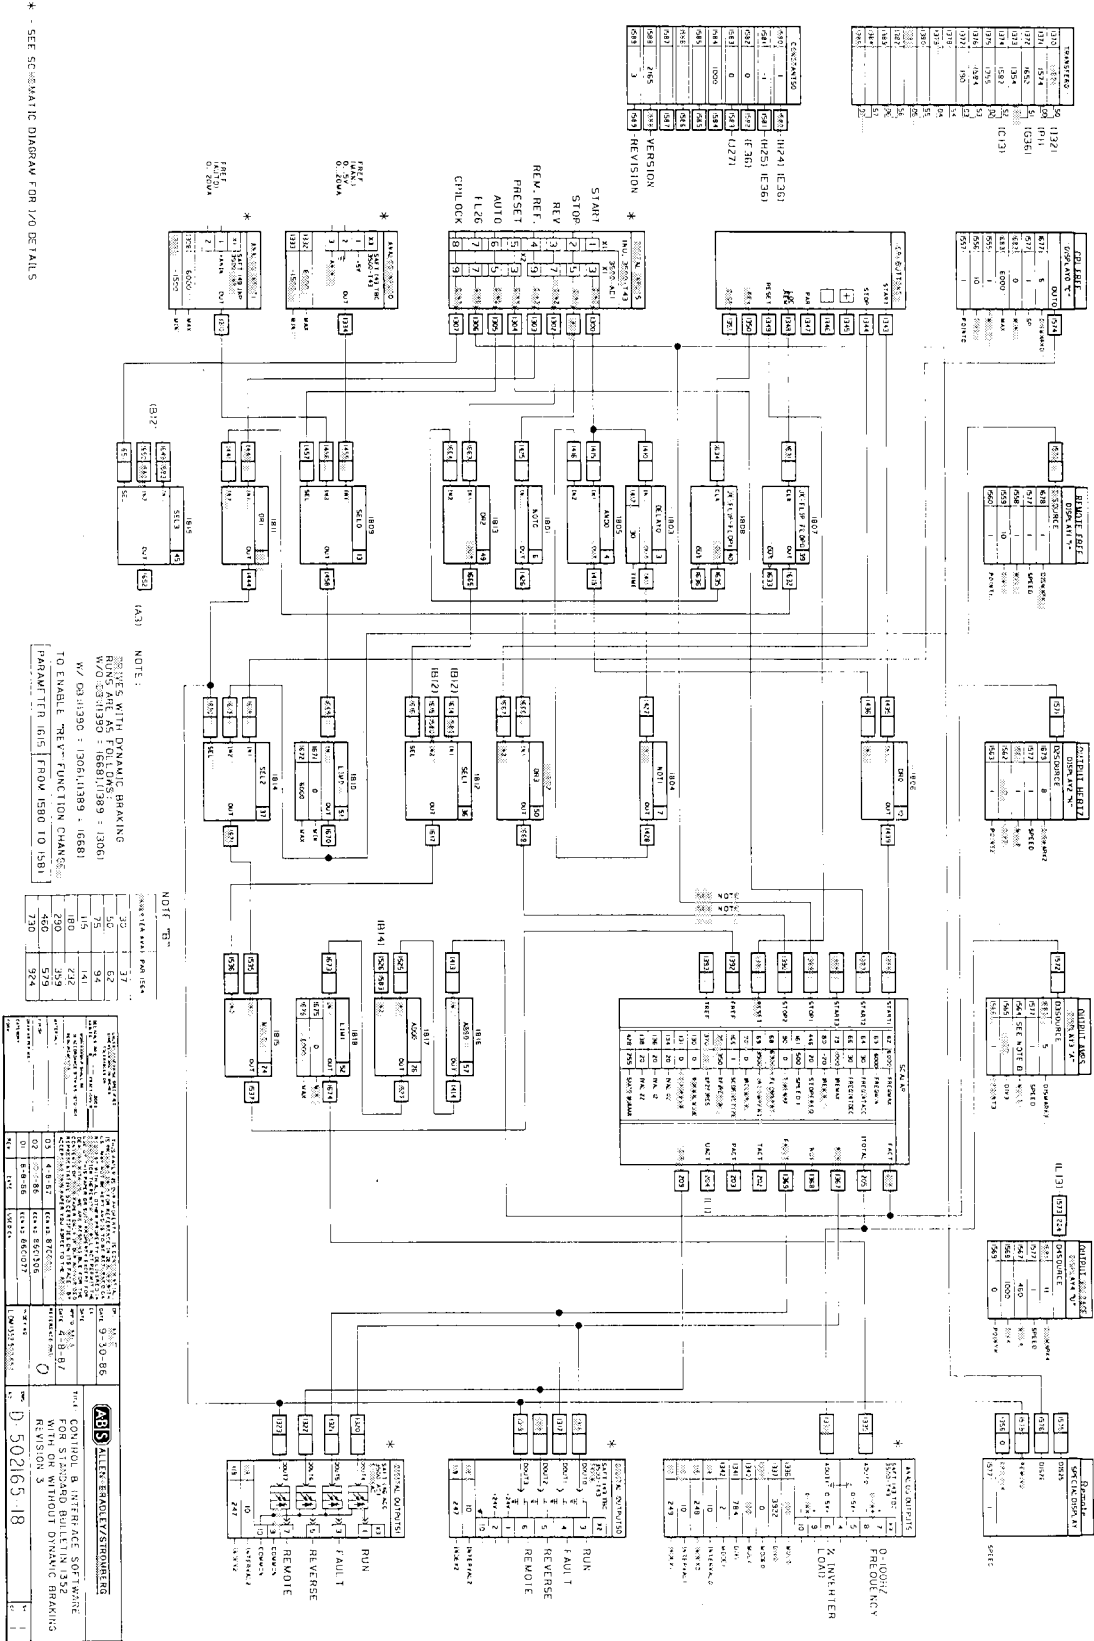

Figure 3-49. Standard Software (repeated in Section 9)
3-2.7.1 START/STOP - Since the actual inputs to the SCALAR block (Fig. 3-49) are inherently 3 - wire equivalent, the Start/Stop control is configured as a 3-wire control. When the START-1 input is connected to a digital input (Table 3-2) it will LATCH-UP, and then the SCALAR block will receive a STOP input telling it to STOP. The START input is conditioned as a oneshot, because a maintained START command would attempt to tell SCALAR to start the drive under any circumstance.
With the oneshot in the start circuit, a start command given by a closed contact (or pushbutton) will be active for the time delay specified in DELAY0 : TIME (where time = $N \times 210$ ms) shown in # 1803 Figure 3-49. After the time elapses, the output of AND0 will go false, clearing the start command. Whenever the start input goes false, the oneshot is cleared and reset.
3-2.7.2 REVERSING - The configuration of SEL1 : IN2 (#1812 Fig. 3-49) is the primary factor in controlling Reversing. SEL1 : IN2 controls the selection of one of two multipliers to be multiplied by the frequency reference. The frequency reference can be passed on through SEL1 without modification, or it can be multiplied by the constant "-1", which is contained in location 1581.
2. Toggling of the JKFlip Flop1 block (#1808 Figure 3-49) by the CP1 : REV button.
Making a selection with either of these methods will cause the output of OR2 (# 1813 Fig. 3-49) to go true. turning the selection of SEL1 to examine IN2 instead of IN1. This will control the multiplication factor to be fed to MUL0:IN2 (# 1815 Fig. 3-49), and ultimately define the "polarity" of the frequency reference.
- 3-2.7.4 PRESET** - Momentarily activating the PRESET input (DIGITAL INPUT block Fig. 3-49) via a pushbutton or contact will activate the START2 input to SCALAR, commanding the inverter to run at PRESET SPEED defined by SPEED1 (161 TEE). This input will effectively "disable" the START 1 request to run with a LOCAL or REMOTE reference, and will stay in PRESET mode until interrupted by a STOP1 or STOP2 command. Although not used, the START3 input functions identically.
- 3-2.7.5 AUTO MODE** - Selection of the AUTO MODE (DIGITAL INPUT block Fig. 3-49) results in the inverter following the analog reference value in channel 1 of the 3500 - INP isolator card (Table 3-3). This signal is scaled for 4-20mA as a default. The selection of AUTO mode does not in itself imply that the drive will follow analog input 1; it is necessary to select the general case of REMOTE references using the selector switch or CP1 REMOTE pushbutton. This function can be performed concurrently by adding a jumper to the digital inputs from DIN5 to DIN3. Thus, when selecting AUTO MODE, REMOTE MODE will also be selected, and the drive will follow analog channel 1 while DIN3 and DIN5 are both true.